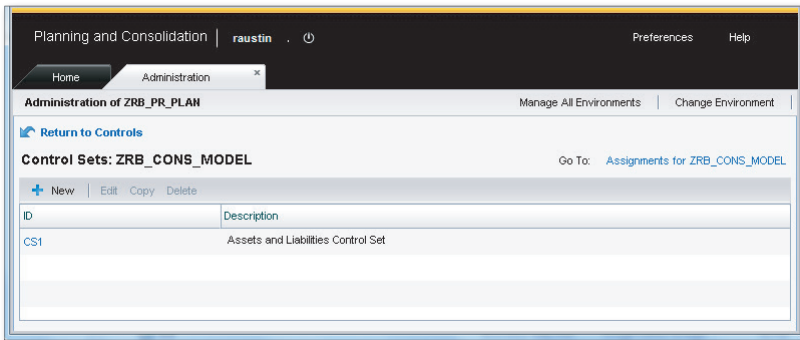

Figure 9.30 Configuring and Running Controls—Part I
9. In the control set interface, click on a control set, and click on the **Go To: ASSIGNMENTS FOR ZRB_CONS_MODEL** link (Figure 9.30).